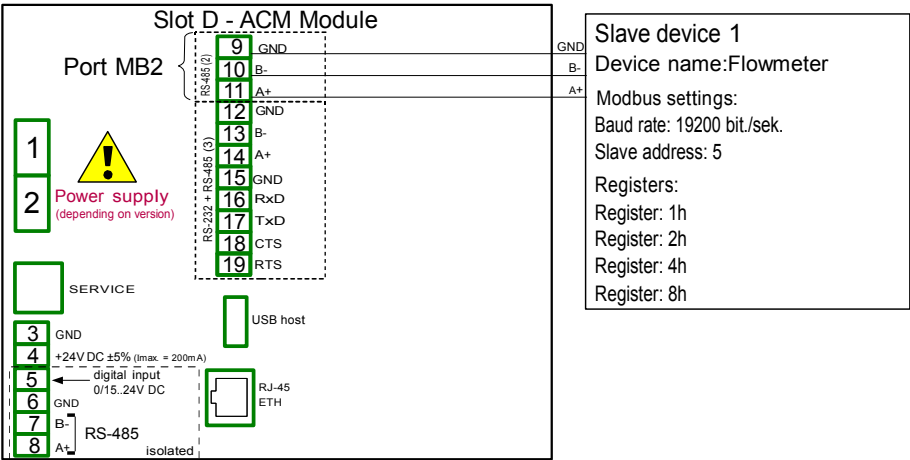

Fig. 7.130. Connection diagram for the Modbus port MB2
First we need to configure the device according to the following recommendations, then connect the device according to Fig. 7.130.
- using the arrows in upper right corner choose Port number: 1 (MB1 in accordance with Fig. 7.130),